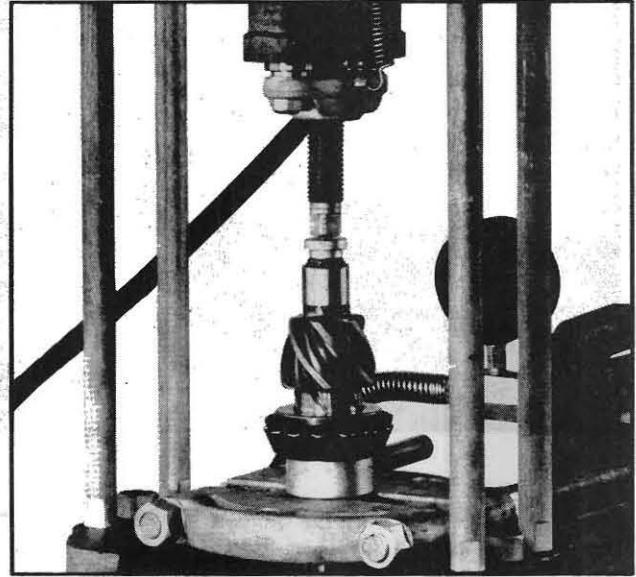

Fig. 263
1. Use the special sleeve, SDT-108, and bearing splitter in a press, as shown in Fig. 263 to press the pinion into the bearing.